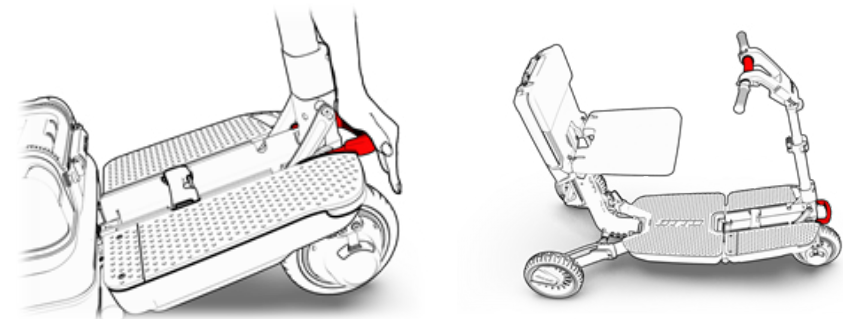

Figure 12
- Lock the rod in the upright position by pushing the front lever down until it clicks and locks in place (see Figure 12, step 1). In case the front lever requires significant force to operate, you should apply horizontal pressure on the main handle toward the front of the ATTO (Figure 12, step 2). This will release pressure on the front lever and will make it easier to lock (Figure 12, step 3).